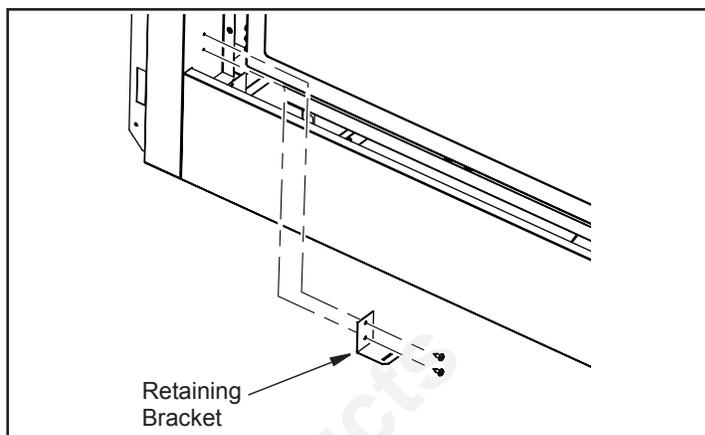

Figure 38 - Installing Access Door Retaining Brackets for See-Thru Applications
1. Screw access door retaining brackets into the inner side face using 2 screws on both the left and right side as shown in Figure 38.